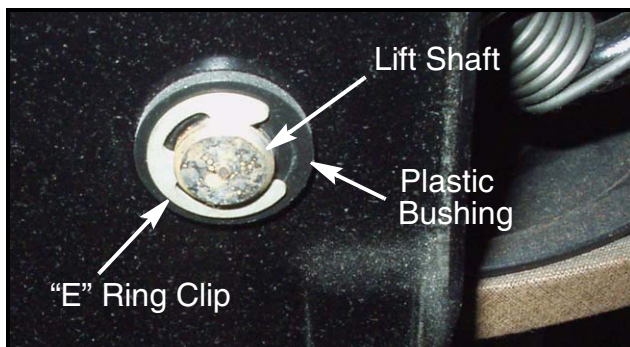

**FIGURE 3**
13. Unhook the long arm of the lift handle's torsion spring from the lift handle. See Figure 3.